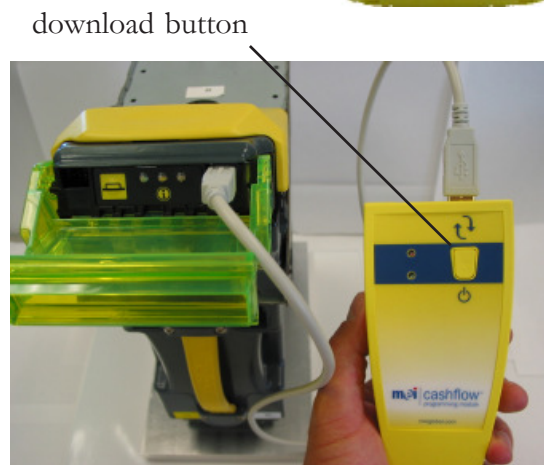

fig.2
- 22 USB SERVICE PORT - SEE PAGE 17 AND FIGURE 2 FOR DETAILS.
2. Plug the type A end of your USB harness to the USB type A port of the **PPM**. Plug the type B end of the same USB harness into the USB type B port of the Cashflow SC83®. (see fig.2).
2. Press the square download button located on the front of the PPM. (see fig.2 on previous page)